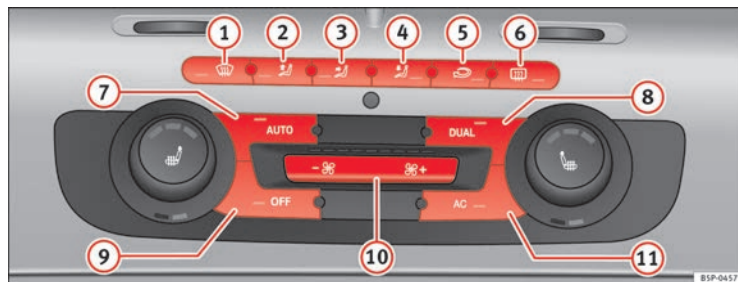

Fig. 110 On the dash panel: 2C Climatronic controls
- Turn the temperature control knobs ⇒ fig. 110 in order to adjust the temperature on the left hand side or the right hand side respectively.
- Press the **AUTO** button ⇒ page 154, fig. 110. “AUTO High” is shown on the radio display (high fan speed).
- Press the **AUTO** button again ⇒ page 154, fig. 110. “AUTO Low” is shown on the radio display (low fan speed).